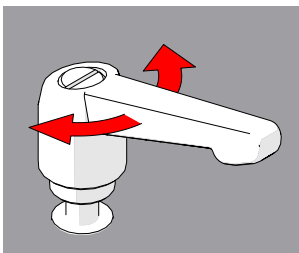

Fig. 22 - Rotate handle
2. Continue to pull while rotating the lever in the appropriate direction (*Fig. 22*).